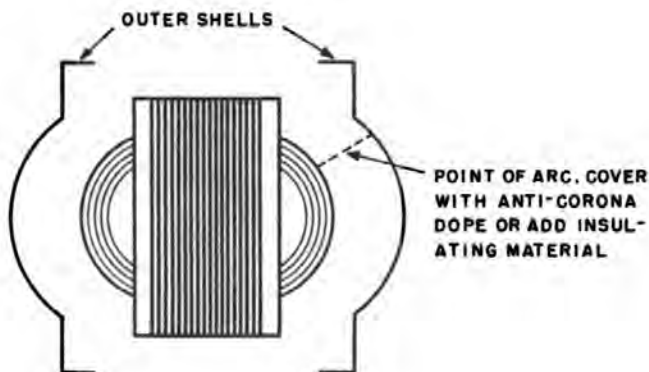

Fig. 4-9. Eliminating arcing between a filament winding and a transformer.
- d. Cover the point at which the arc has occurred with high-voltage corona dope, or place a layer of insulating material (cambric or the like) so that the point of arc is covered (Fig. 4-9).